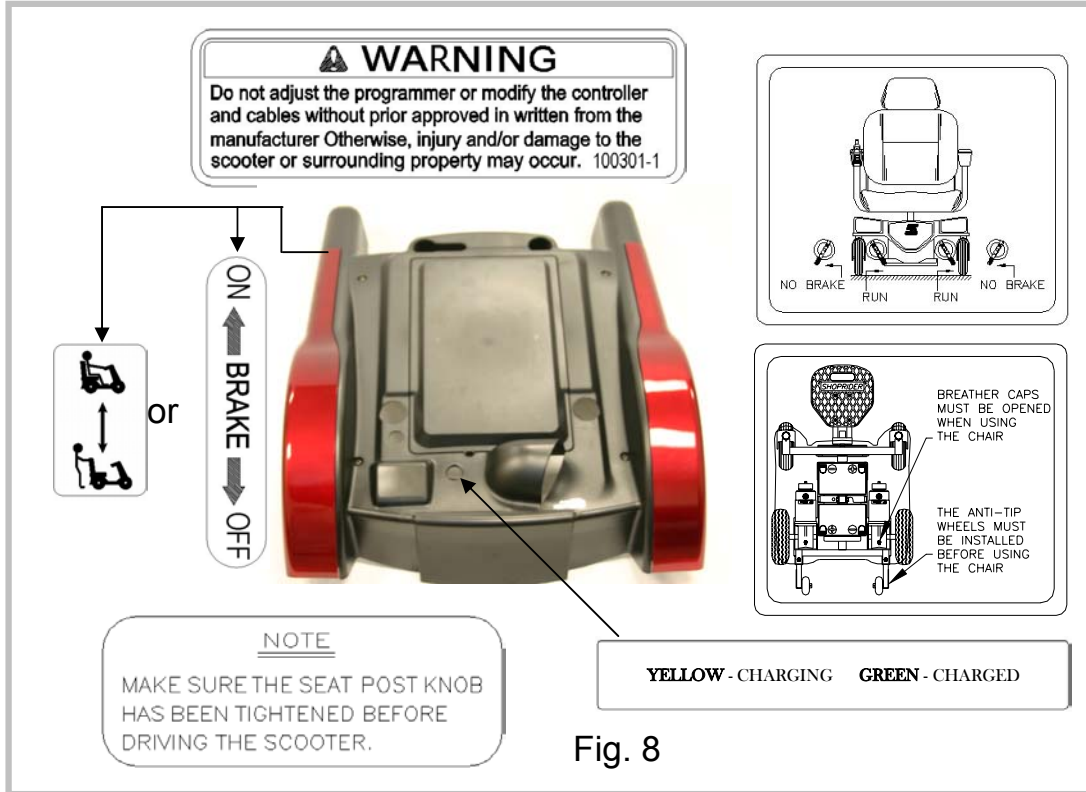

Fig. 8
- (1) **Do not** drive the Powerchair without reading this instruction manual.
- (2) **Do not** exceed the safe climbing maximum angle (Table 2).
- (3) **Do not** use the joystick in an erratic manner when going up or down an incline.
- (4) **Do not** carry passengers or exceed the maximum user weight (Table 2).
- (5) **Do not** turn off the joystick controller by switching the On / Off Button when moving at speed. This will bring the electromagnetic brakes on immediately and could cause damage to the joystick controller.
- (6) **Do not** drive over deep and soft terrain (soft dirt, loose gravel, deep grass).
- (7) **Do not** attempt to mount a curb height above 50mm (2") unless the Curb Skippers are installed (before using, refer to page 10, Fig.8).
- (8) **Do not** mount or dismount the Powerchair unless the electromagnetic brakes are engaged and the joystick controller is off.
- (9) **Do not** operate the Powerchair if the unit is in freewheel mode.
- (10) **Do not** use on the road, except when crossing between sidewalks.
- (11) **Do not** sit on the Powerchair when in a vehicle, but transfer to a vehicle seat.
- (12) **Do not** exceed any grade over 8 degrees (14%).
- (13) **Always** stop fully before changing forward or reverse direction.
- (14) **Always** engage a slow speed when going down gradients (move the joystick slowly towards center position to reduce the speed).
- (15) **Always** approach and climb over curbs at slow speed.
In the event of a fault or battery failure, the electromagnetic brakes can be disengaged allowing the Powerchair to be pushed. The levers should be switched to the freewheel position according to the indication labels of Fig.5, Fig.6, Fig.7 and Fig.8 to set the Powerchair to the Engaged / Disengaged Mode.